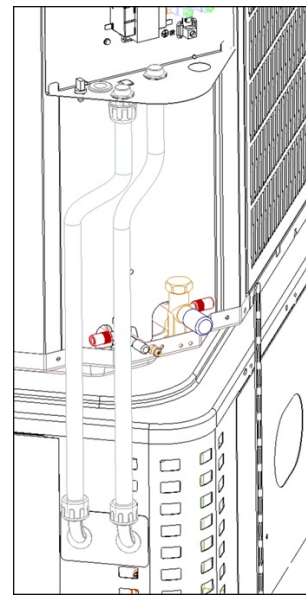

Fig. 4 – DC Power Harness and Communication Harness
Use caution when brazing near the DC Power System and the DC Power Harness Electrical Connections (as seen in Fig. 4).
- b. Use separate knockouts for the DC Power Harness and the Communication Harness and wires. See Fig. 4.
- Secure the conduit for the DC Power Harness and Communication Harness to the knockout holes on the bottom of the ODU Control Box following the routing shown in Fig. 4 and secure by tightening the nut on the harnesses.